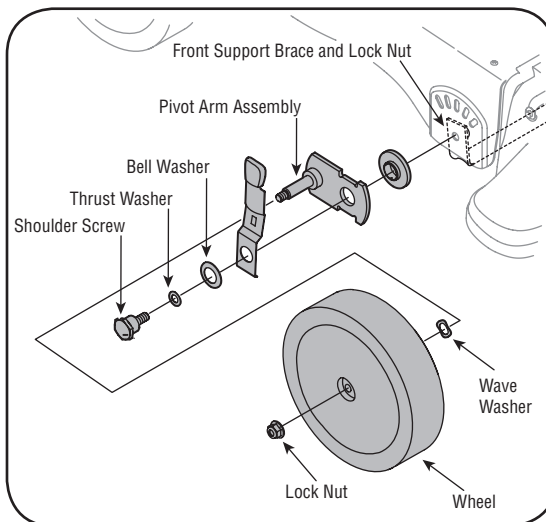

Figure 5-3
1. **Wheels:** Lubricate each wheel shoulder screw (rear wheel) and pivot arm axle (front wheel) once a season with light oil. See Figure 5-3.
3. Remove the front hubcaps, flange lock nuts, front wheels, and wave washers that attach to the pivot arm assemblies. See Figure 5-3.
4. Remove the shoulder screws, thrust and bell washers that go through the pivot arms to the front support brace. The front support brace and lock nut can be removed at this time as well. See Figure 5-3.